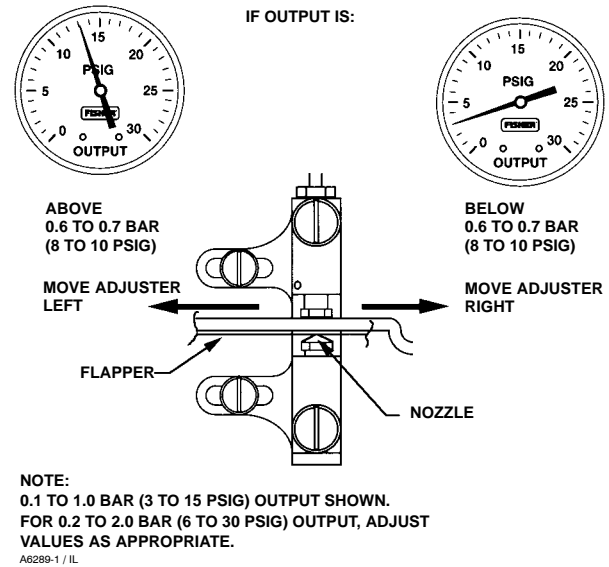

Figure 12. Reverse-Acting Controller Span Adjustment — Proportional-Plus-Reset Controllers
one of the two adjusting screws (key 43) and move the calibration adjuster (key 41) a small distance as indicated in figure 12.